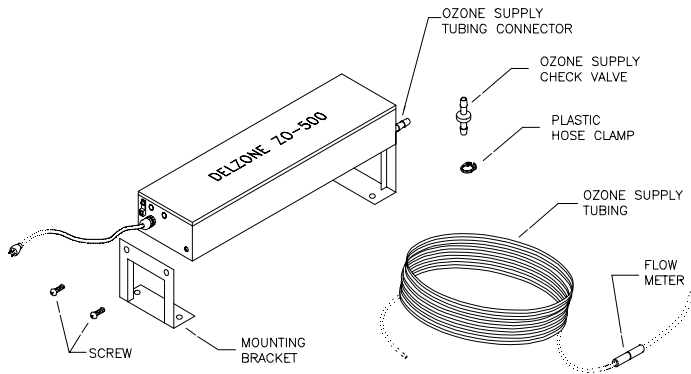

Figure 1: Ozone Generator and Parts
Unpack the DELZONE unit (Figure 1) and become familiar with it.
Attach mounting brackets (2) to the short sides of the ozone generator with 2 screws per bracket. Generally, the mounting brackets should be oriented as shown in Figure 1. In this position they will provide the best support to the generator. If convenient, the brackets may be turned with feet pointing outward. Locate the ozone supply tubing connector and power cord. Locate the ozone supply tubing, the plastic ozone supply check valve, the four plastic hose clamps, and the flowmeter (attached to the ozone supply tubing toward one end). The type of injector you require depends on your pump circulation system. Information on the various injectors is further explained in this manual. Once you have located the pertinent parts of the generator, you are ready to begin installation.
Attach mounting brackets to the ZO-500 with provided screws as shown on Figure 1.